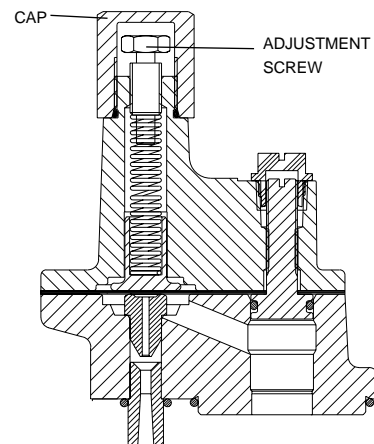

Figure 4.5 Functional Element cap and adjustment screw
- 4: Be certain all mating surfaces are clean. Install new functional element o-rings on functional element (see figure 4.5). Install small o-ring in groove of packer. Carefully set new functional element in place. Replace two 3/8" bolts and torque to 20-35 ft lb (27-50 N•m).